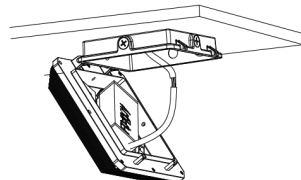

Figure 2-6
6. Connect the wires properly; If the fixture is equipped with sensor, adjust the sensor settings. Take relevant waterproof measures after the wires are connected. Figure 2-6